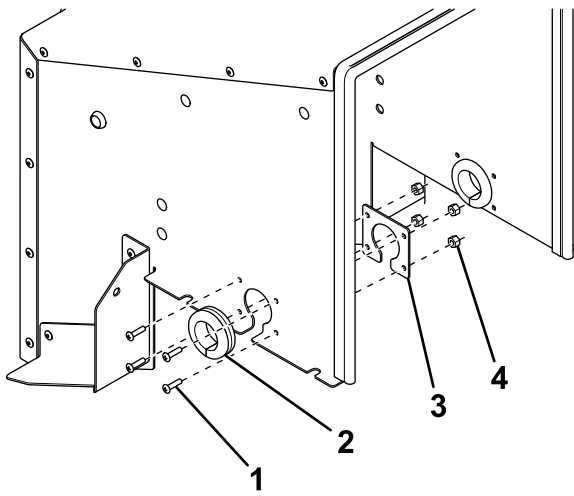

Figure 14
2. Secure the grommet plate to the inside of the rear cover using 4 bolts (#10 x 3/4 inch) and nylon nuts (Figure 14).
- Insert the rubber grommet into the opening on the grommet plate (Figure 14).